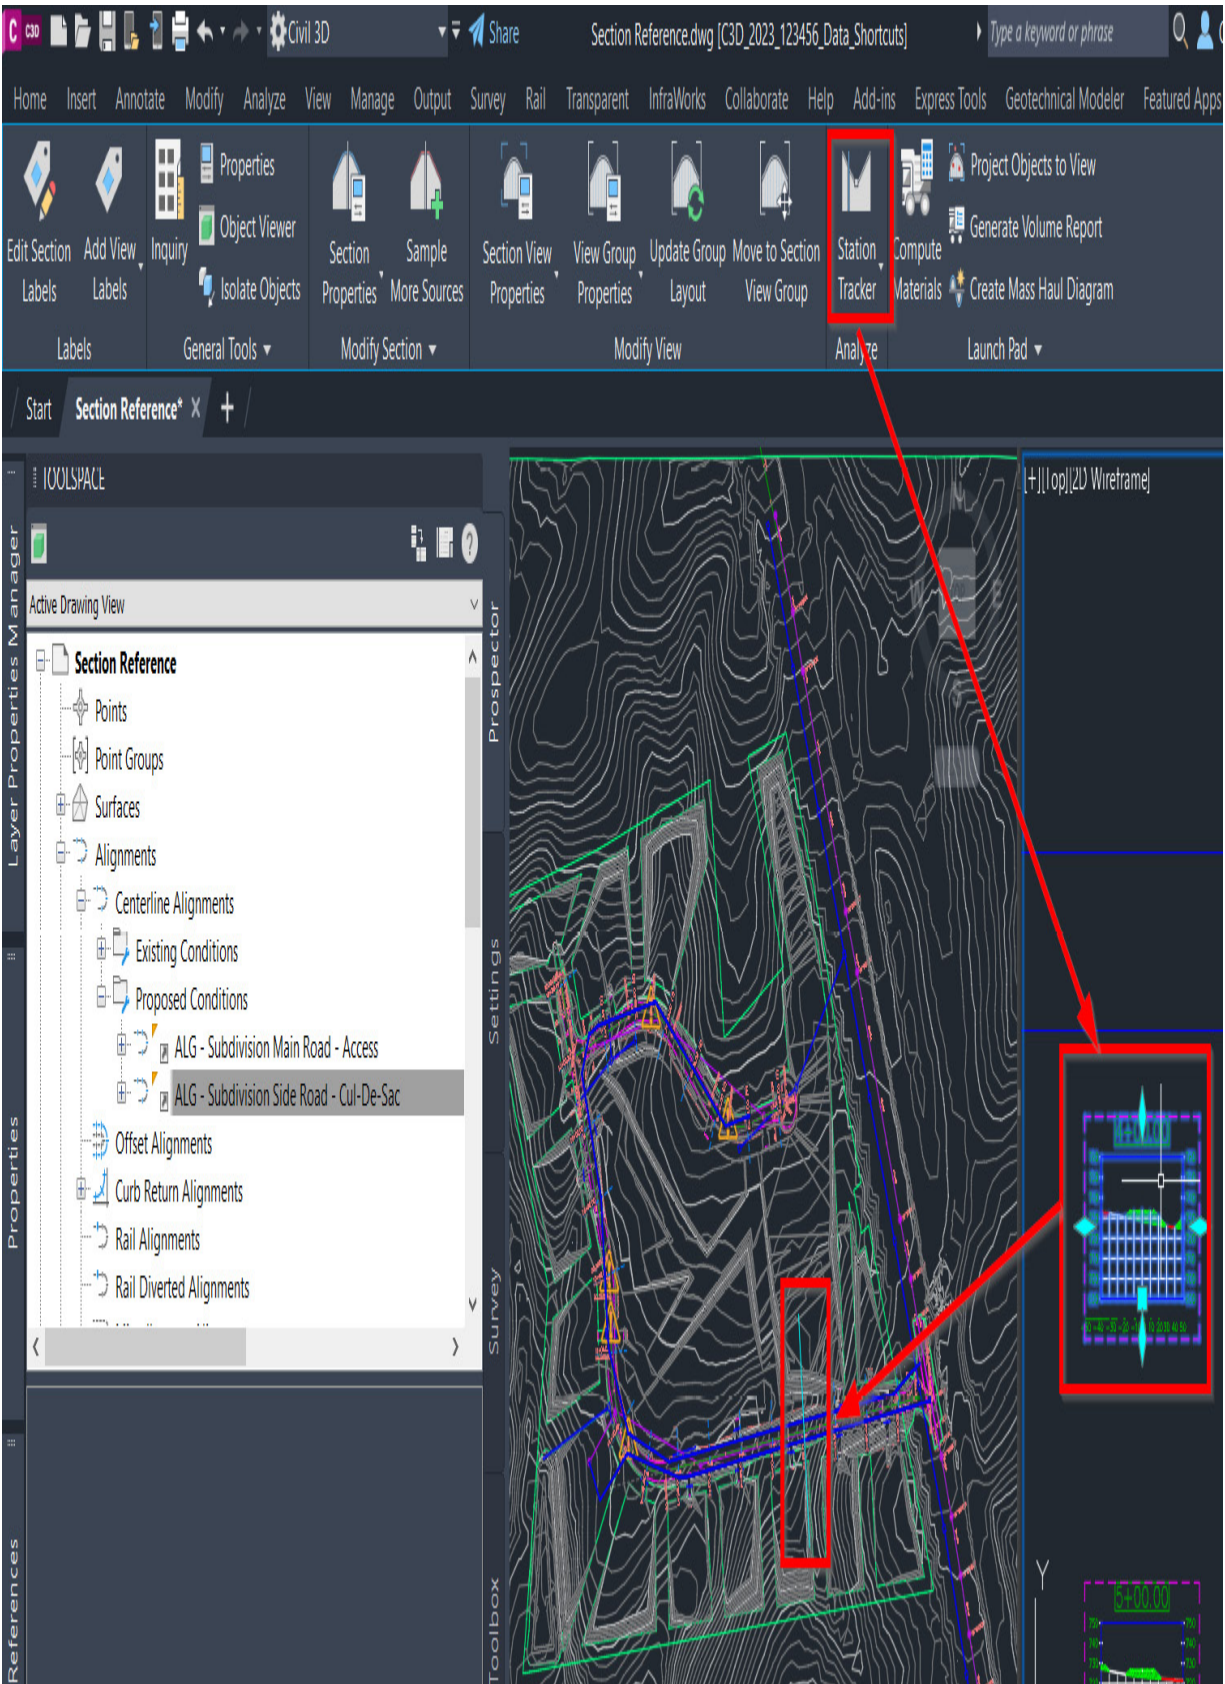

Figure 13.22 – Section View Station Tracker
*If we select any one of our Section Views to pull up the Section View **Contextual** ribbon, we'll gain access to the **Analyze** panel, which contains a **Station Tracker** tool. If we have our Model Space view set up with multiple views, where one view is displaying Section Views while another is displaying our Plan View, we can quickly locate where each section is located within our Plan View, as shown in Figure 13.22:*